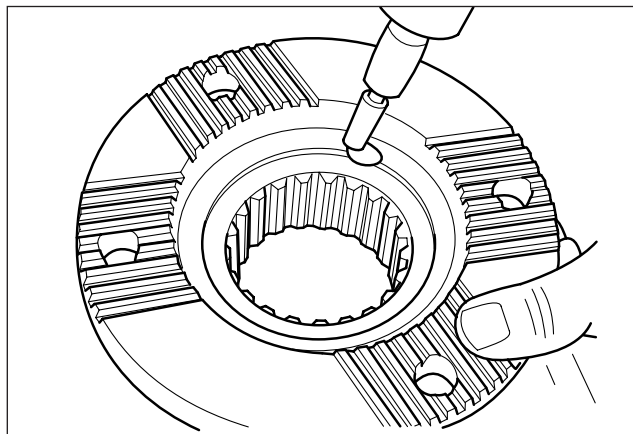

Fig. 4.12
7. If reused, remove any burrs found on the flange with the aid of a small ball nosed grinding wheel. (Fig. 4.12)